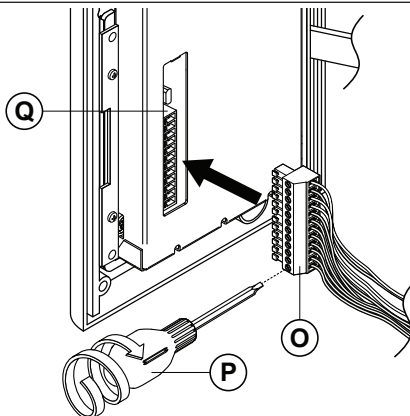

Fig. 57
8. Make the required wiring connections into the terminal block **(O)** using the screwdriver provided **(P)** (using the flat blade end) then plug the terminal block **(O)** into the module's terminal block connector **(Q)** , as shown in **Fig.57**. Make any other necessary panel adjustments required (connecting the antenna cable, fitting the SIM card and setting the dip-switches etc.);